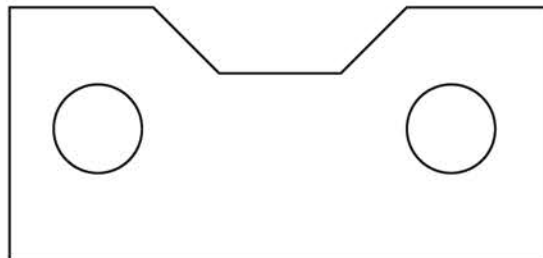

Fig. 12.23 First example – simple tolerances – outline
1. Construct the outline Fig. 12.23.
1. Open the drawing from the example on tolerances (Fig. 12.23).